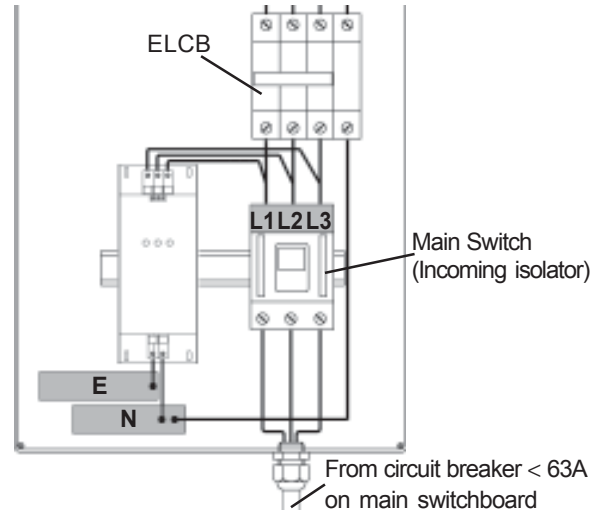
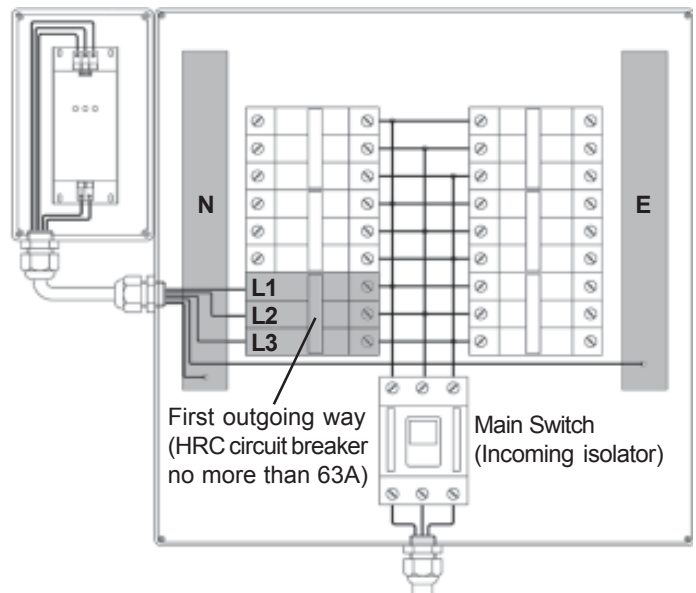

Figure 5: Installation at a distribution board
Figure 6: Installation at a main switchboard
3.2 Point of Connection: The unit should be connected on the load side of the incoming isolator as shown in Figure 5, or on the first outgoing way (the outgoing way nearest to the incoming isolator) as shown in Figure 6.
Units should be installed on the **line side of earth leakage circuit breakers** (Figure 5). Failure to do so may encourage nuisance tripping.
If the unit is to be positioned external to the switchboard it should be mounted in an enclosure (Figure 6). Suitable polycarbonate enclosures are available from Novaris Technologies.
3.4 Isolation: For distribution boards greater than 63A and all main switchboards, the unit must be isolated by a circuit breaker or HRC fuse (Figure 6). Isolation is not essential for distribution boards that are protected by a circuit breaker or fuse of 63A or less at the main switchboard (Figure 5).